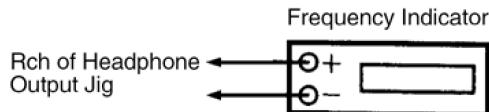

Fig. 10
- 1. Connect a frequency indicator. (Fig. 10)